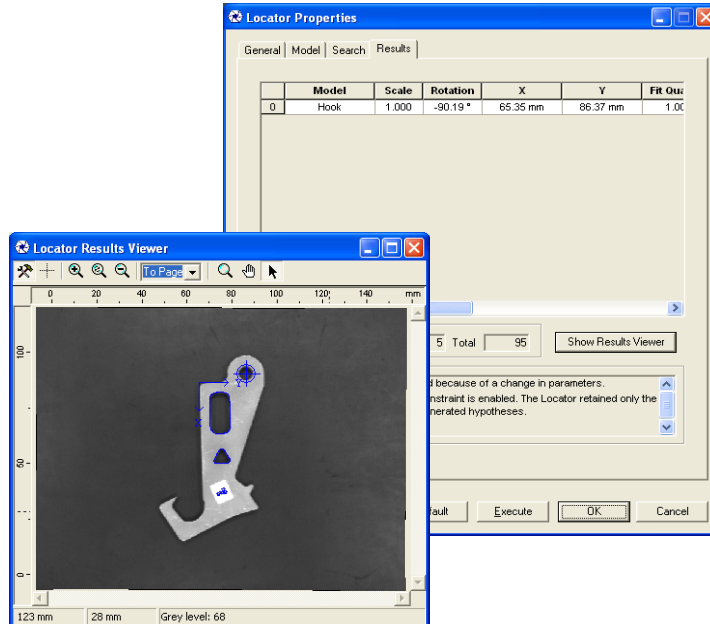

Figure 93 Results Viewer and Results Panel of the Locator Tool
4. Click **Show Results Viewer** to view the located instance superimposed on the Image, as shown in Figure 93.